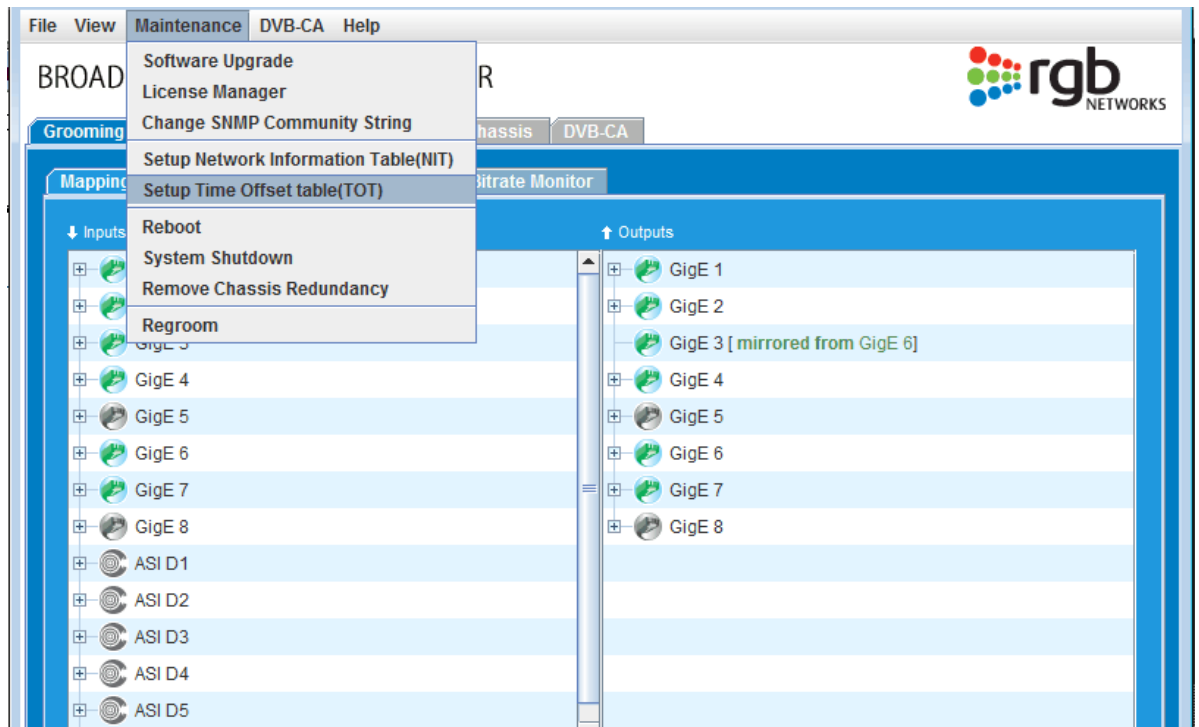

Figure 31. Choosing TOT Time Offset
1. From the *Element Manager*, select **Maintenance -> Setup Time Offset table(TOT)** (Figure 31).